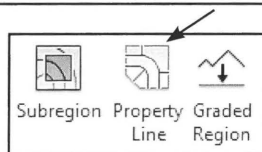

Fig. 10.52.
- Klik *Massing & Site - Property Line* (Fig. 10.52).